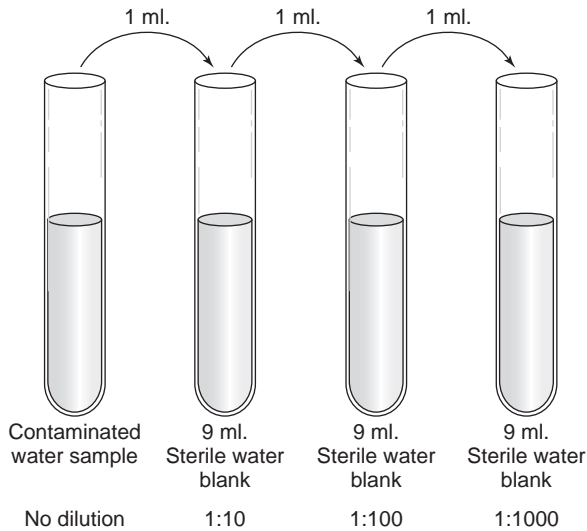

FIG. 23.1. Dilution of contaminated H₂O sample.
- b. Aseptically transfer 1.0 ml of the contaminated water sample to tube number one, mix well, and transfer 1 ml of this mixture to tube number two. Again, mix tube number two and aseptically transfer 1 ml from tube number two to tube number three. (You can use the same pipette for the preparation of these serial dilutions.) You have now prepared a 1:10, 1:100, 1:1000 dilution of the contaminated water sample (Fig. 23.1).